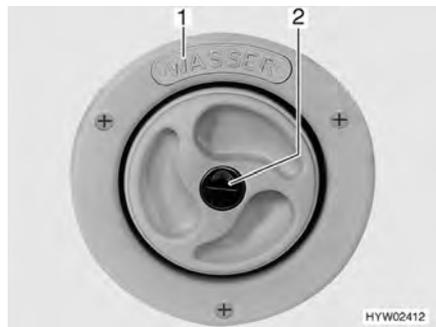
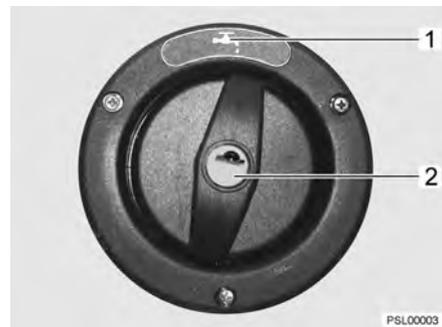

Fig. 166 Cap for the drinking water filler neck
Fig. 167 Cap for the drinking water filler neck (alternative)
The drinking water filler neck is labelled by the word "WASSER" (water) (Fig. 166,1) or marked by the symbol "☕" (Fig. 167,1). The cap is open and closed using the key for the external flap locks.
- Insert key into locking cylinder (Fig. 166,2 or Fig. 167,2) and turn a quarter turn in an anticlockwise direction.